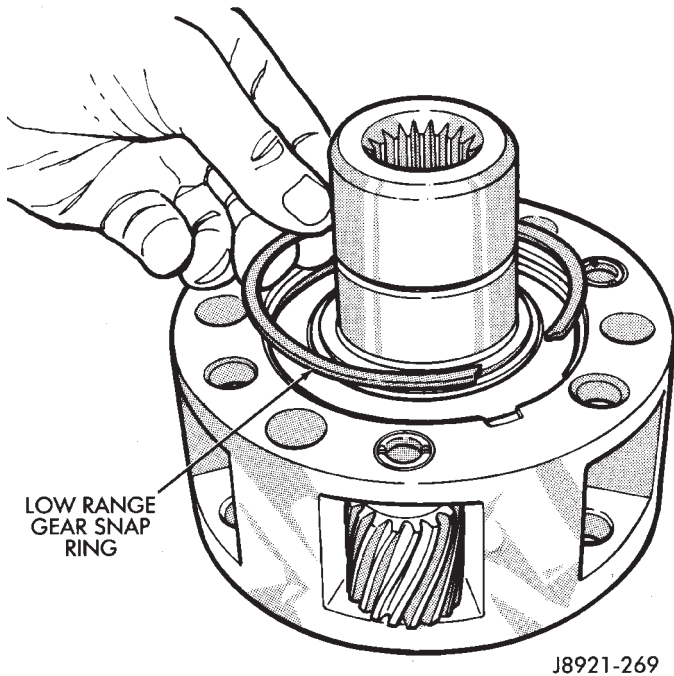

Fig. 50 Install Low Range Gear Snap Ring
(12) Install low range gear snap ring (Fig. 50).